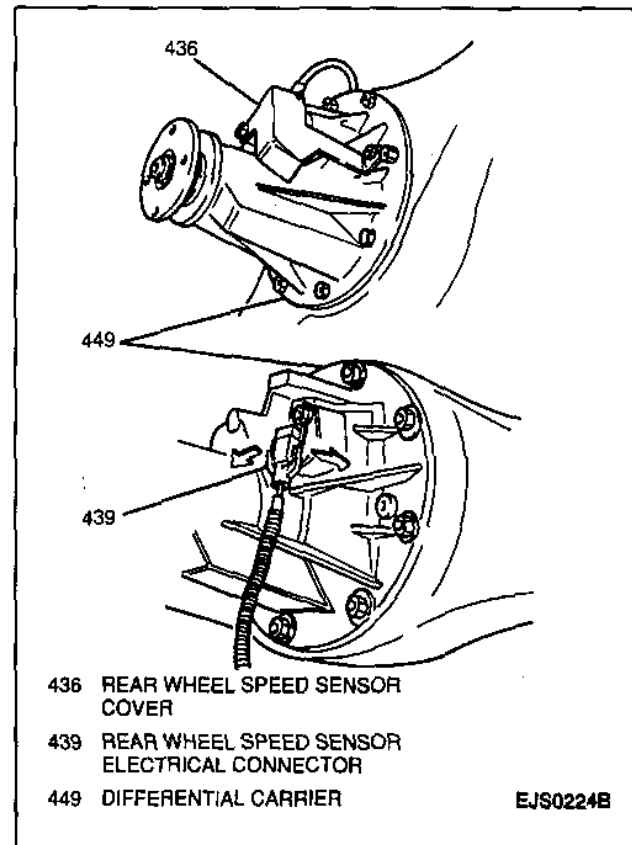

Figure 22—Disconnecting Rear Wheel Speed Sensor
12. Two bolts and rear wheel speed sensor cover from differential carrier if equipped (Figure 22).
13. Electrical connector from rear wheel speed sensor if equipped (Figure 22).
3. Electrical connector to rear wheel speed sensor if equipped (Figure 22).
4. Rear wheel speed sensor cover to differential carrier; secure with two bolts if equipped (Figure 22).
17. Two bolts and rear wheel speed sensor cover from differential carrier if equipped (Figure 22).
18. Electrical connector from the rear wheel speed sensor if equipped (Figure 22).